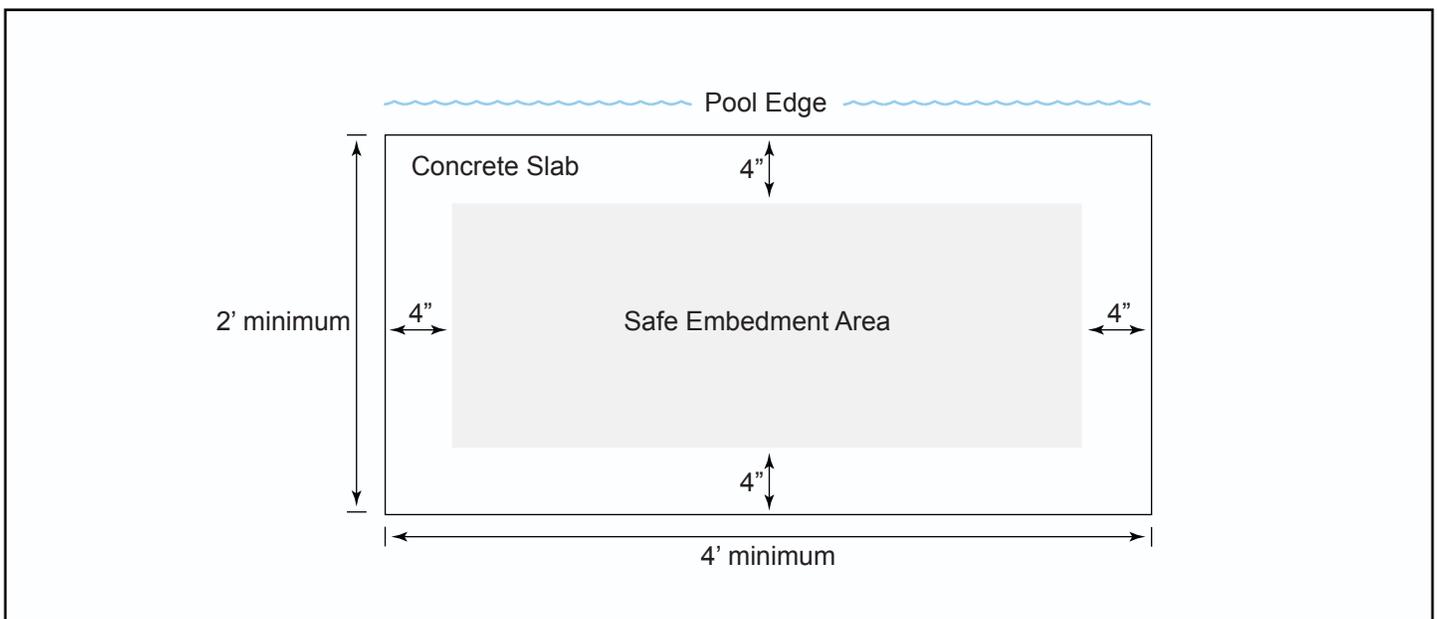

FIGURE 1: CONCRETE SLAB REQUIREMENTS
- The concrete slab to which the On-Deck Base is installed should be no smaller than 2' x 4' (24" x 48"); and at least 4 inches thick (refer to FIGURE 1 below).
- Do not install the drop-in anchors closer than 4" from the edge of the concrete slab (refer to FIGURE 1 below).